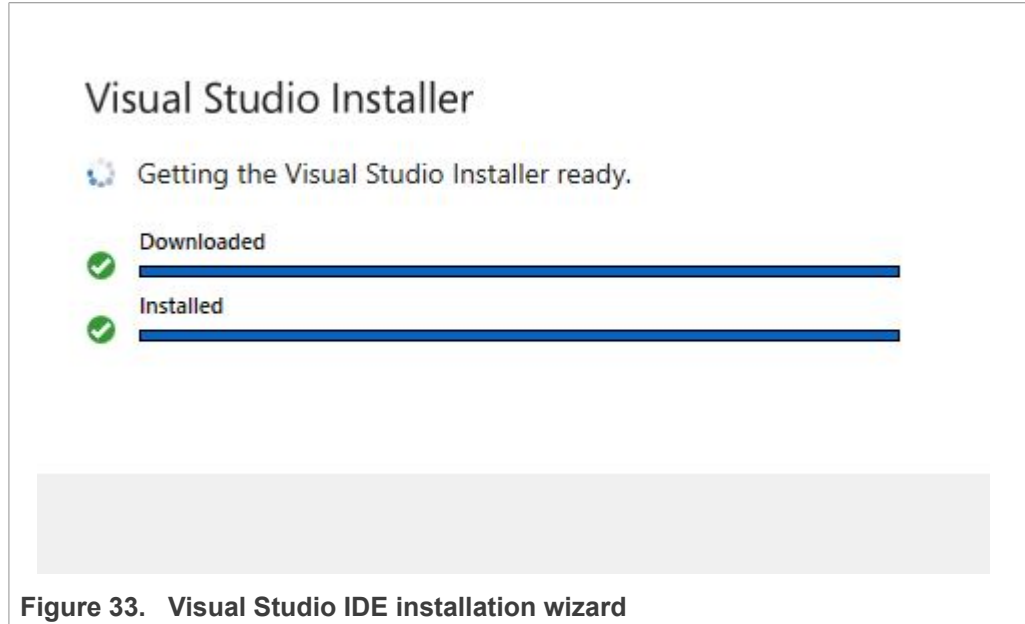

Figure 33. Visual Studio IDE installation wizard
- An *.exe installer will download to your laptop. Double click on the installer file and follow the setup wizard until the installation is completed. This process might take a few minutes. Figure 33 shows Visual Studio installation wizard as an example: